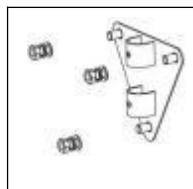
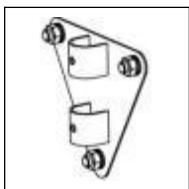

Fig.3.
Fig.4.
- 3). Install the wall panel (2) on the wall and lock three the nut (3). You may need to use a small wrench.See the (Fig.3.)(Fig.4.)